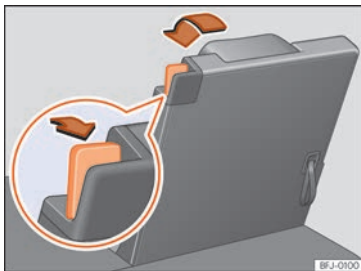

Fig. 122 Third row of seats: place in the cargo floor position.
- Pull the unlocking lever »» Fig. 122 to its rearmost position to unlock the seat backrest.
- Pull the cord on the backrest of the seat »» Fig. 122 to lift the backrest. **OR:** lift the backrest with your hand from the cabin.
- The red marking on the unlock lever »» Fig. 122 must not be seen.
- A red mark on unlock lever » Fig. 122 indicates that the seat backrest is not engaged. If the back rest is locked correctly, the mark is not visible.